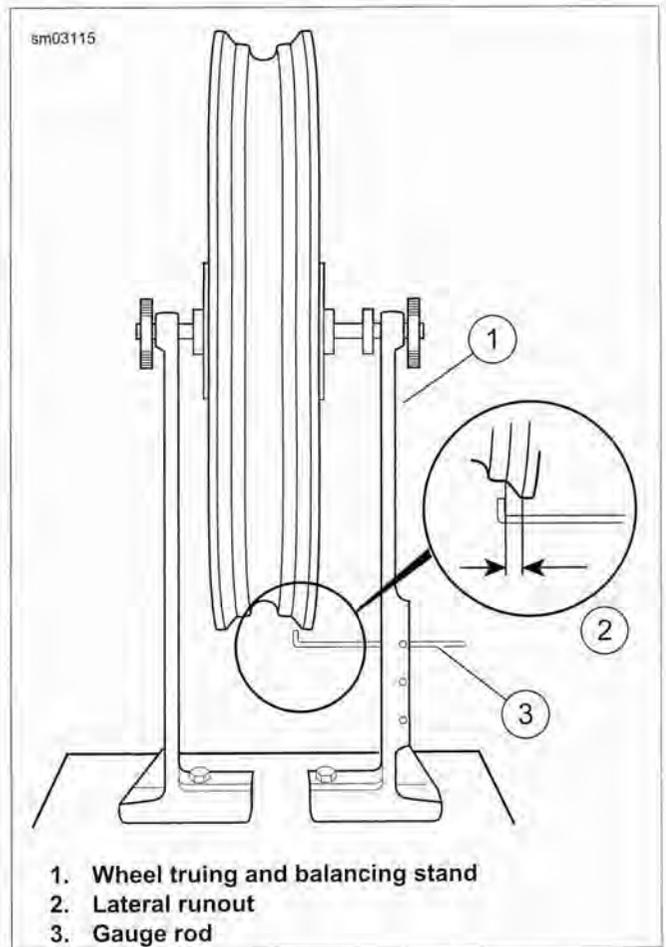

Figure 2-35. Checking Lateral Runout
- See Figure 2-35. With the wheel mounted in WHEEL TRUING STAND (Part No. HD-99500-80), adjust the gauge rod (3) near the rim bead flange.
- Rotate the rim slowly and check lateral runout (2). If runout exceeds 0.030 in (0.76 mm), adjust spokes as follows.